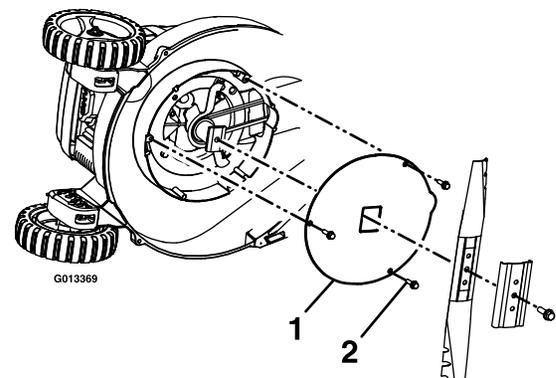

Figure 35
6. Remove the three screws holding the cover plate onto the unit (see Figure 35).